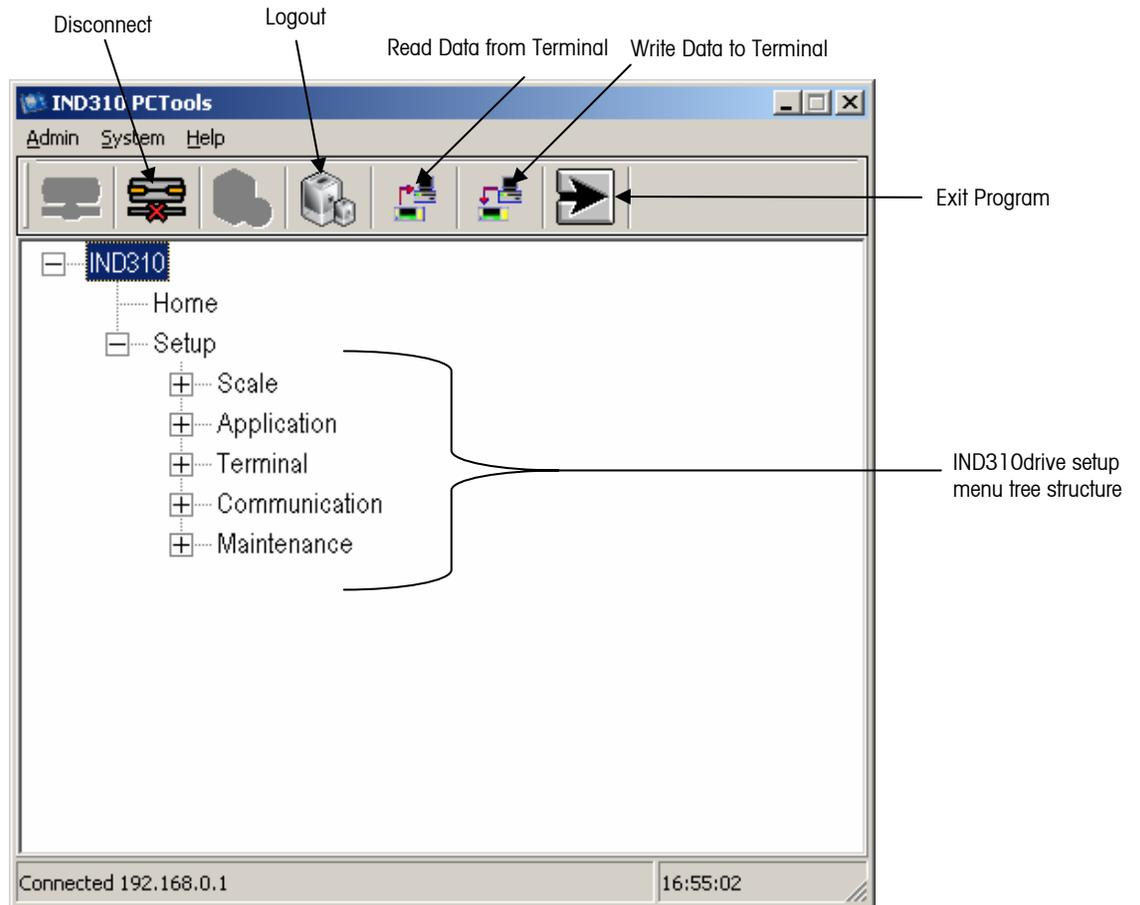

Figure B-12: Main PCTools Screen and Menu Tree
6. Click on the Yes button to complete the login. The main PCTools screen displays (Figure B-12) showing the same tree structure as the IND310drive terminal's setup menu. The PCTools menu tree functions in the same manner as the IND310drive terminal's menu tree. Refer to Chapter 3.0, Configuration for specific setup requirements.
7. To exit the PCTools program press the Exit Program icon (see Figure B-12). It is not necessary to logout and disconnect before exiting, but these buttons are provided for systems where multiple IND310drives are connected together with a hub network.